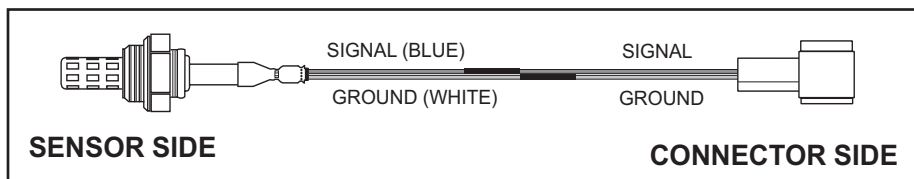

Fig. 3
10. Center heat shrink tube over butt connector(s) and apply heat to seal the connection so water cannot enter. (See Fig. 3)